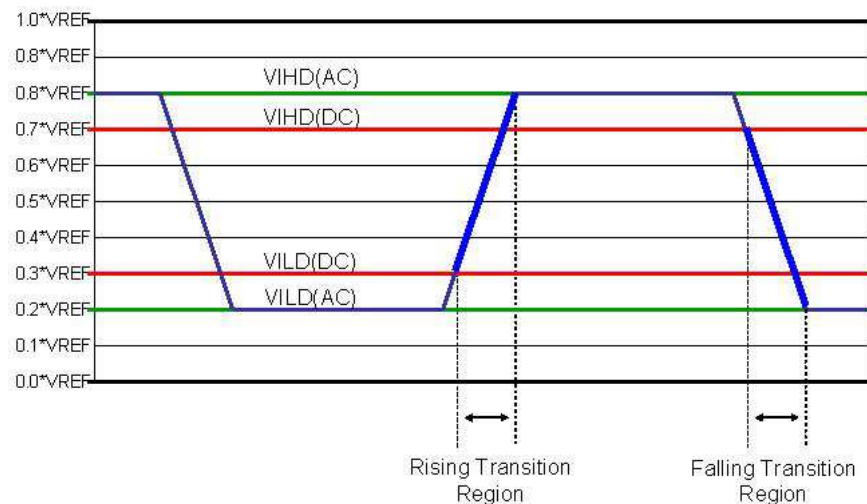

Figure 1. Low Speed (LS) I/O Input Thresholds
(1) V_{ILD}(AC) minimum applies to undershoot.
(2) V_{IHD}(AC) maximum applies to overshoot.
(3) Signal group 1 output slew rate for rising edge is measured between V_{ILD}(DC) to V_{IHD}(AC).
(4) Signal group 1 output slew rate for falling edge is measured between V_{IHD}(DC) to V_{ILD}(AC).
(5) Signal group 1: See Figure 1.
(6) Signal groups 2 and 3 output slew rate for rising edge is measured between V_{ILD}(AC) to V_{IHD}(AC).